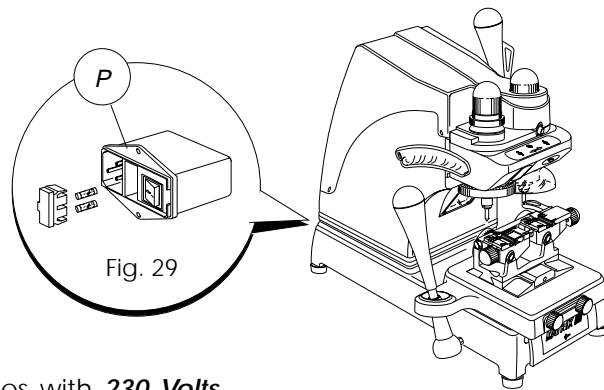

Fig. 29
placed in the inlet socket next to the master switch (P) (Fig.29), to protect the key-cutting machine from sudden changes in voltage or short circuits.
1. turn off the master switch (P) and remove the mains plug.
2. remove the fuse board with the aid of a screwdriver (Fig.29).